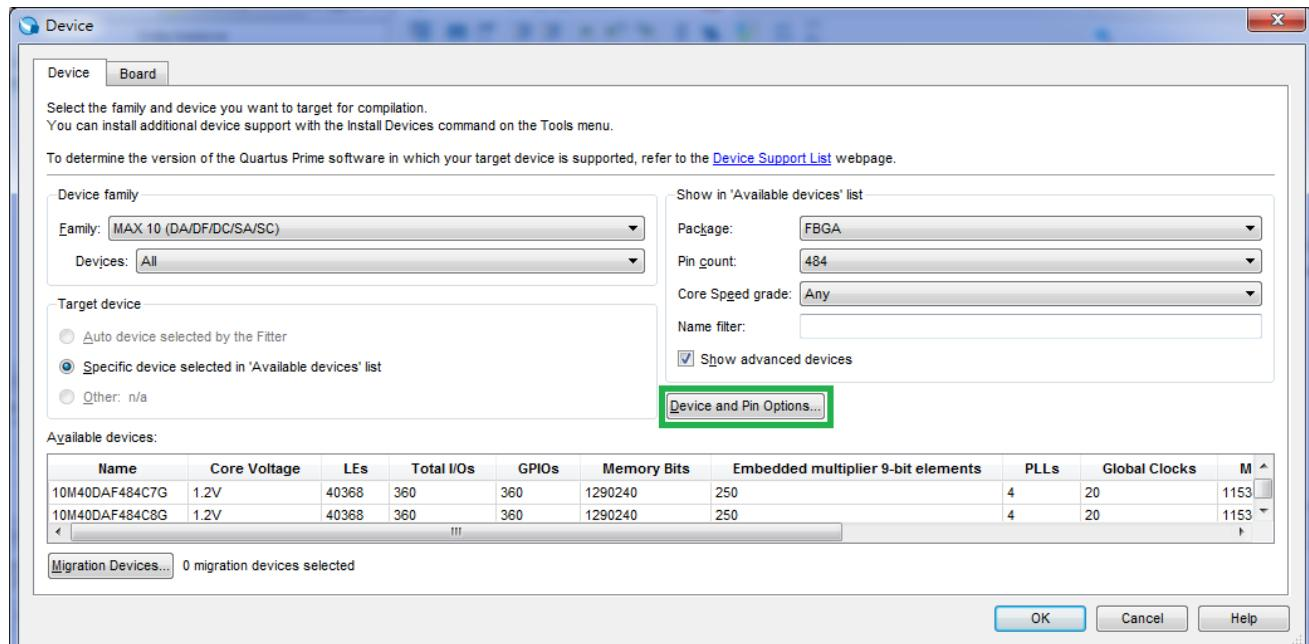

Figure 6-11 Open Device window...
- Choose **Assignments > Device** to open Device windows shown in **Figure 6-11**.